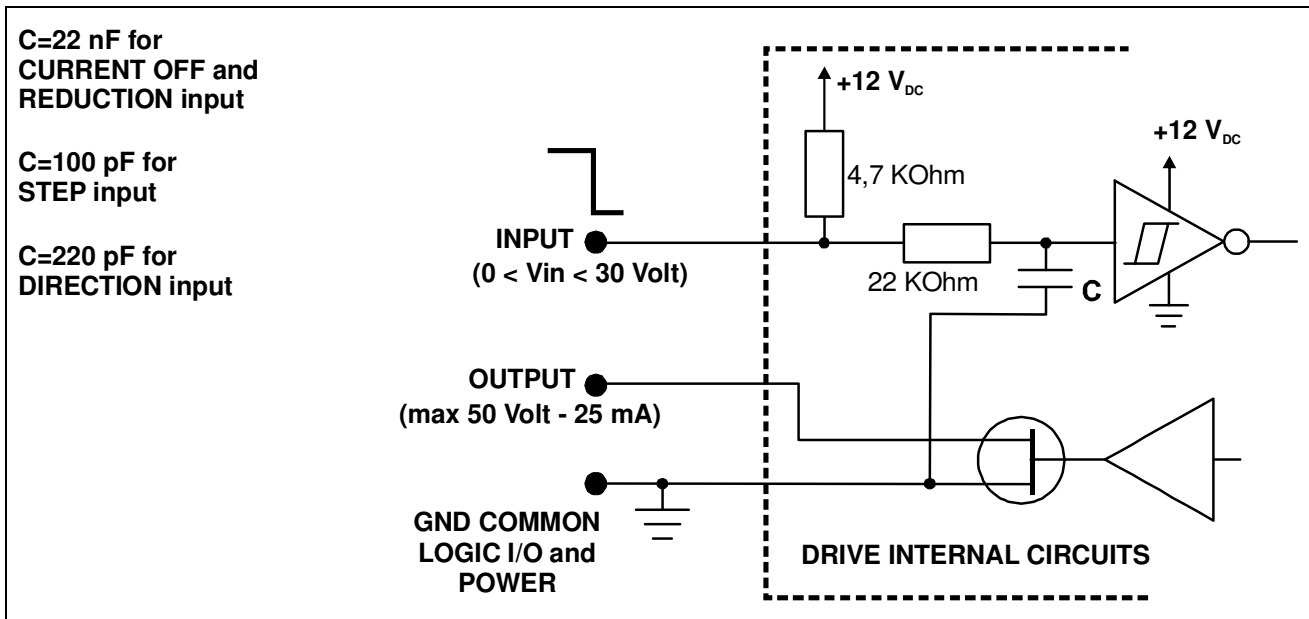

Fig. 2
4.5 - Inputs and outputs are **internally** realized as shown in fig. 2: